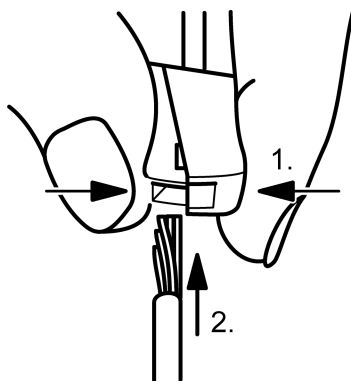

Figure 7: Connection of the fine-wire cable
- Push the terminal together on the side with the rectangular openings and connect the fine-wire connection cable of the device (Figure 7).